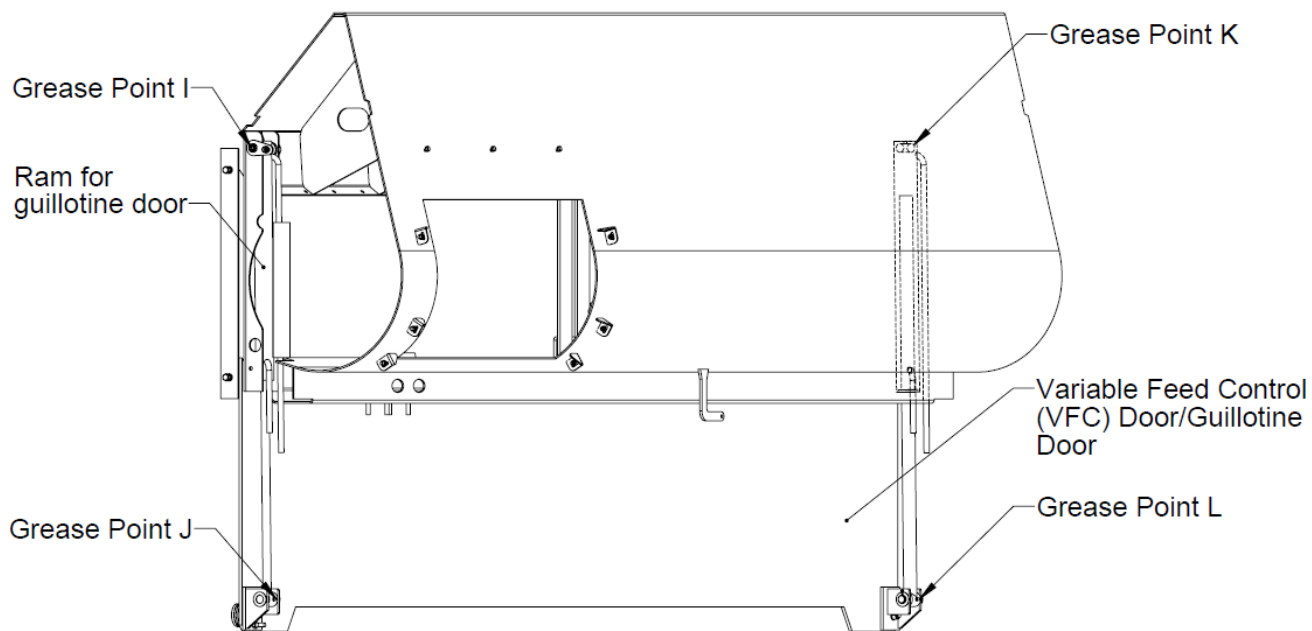

Figure 13: VFC-door grease points
- a. 2 pins & 2 bushes on the guillotine door lifting rams (I, J, K & L, figure 13)